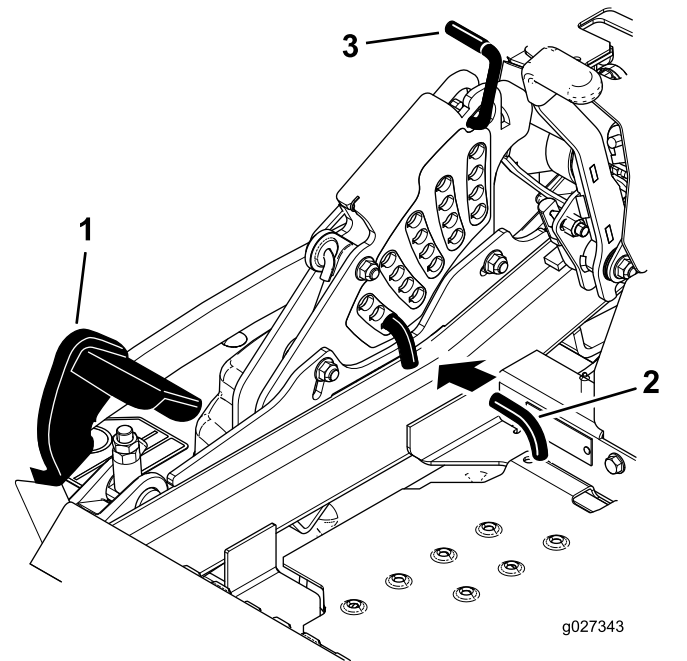

Figure 89
5. Push the deck-lift pedal all the way forward and the deck will latch at the 14 cm (5-1/2 inch) transport position (Figure 89).